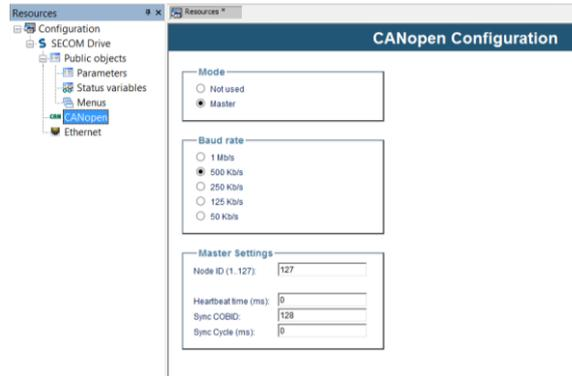

Fig. 4-10: CANOpen node insertion
- Open SDLE project or create a new one (Fig. 4-10)